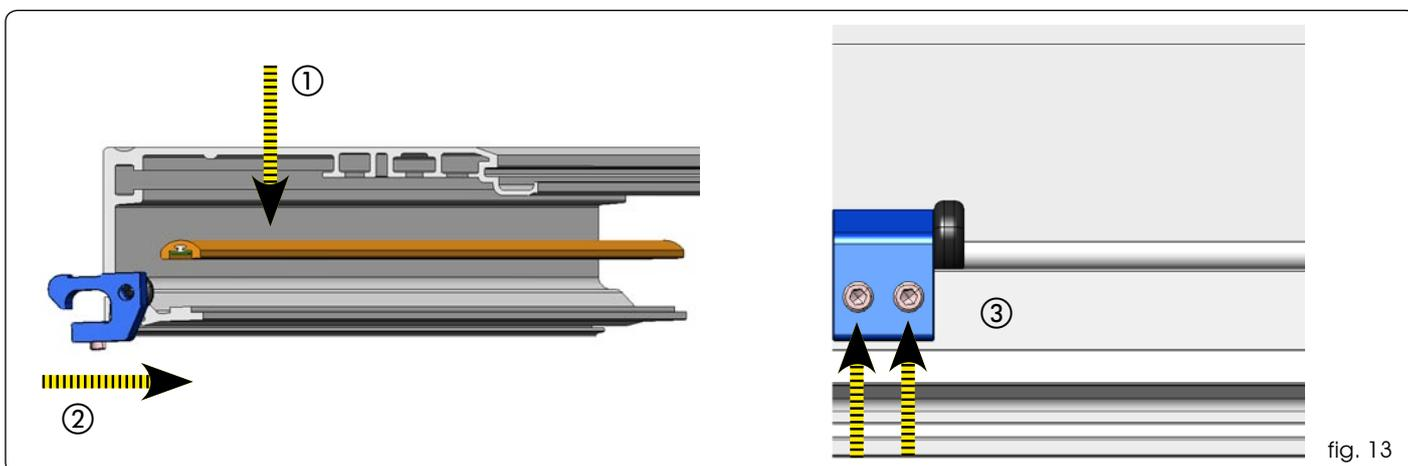
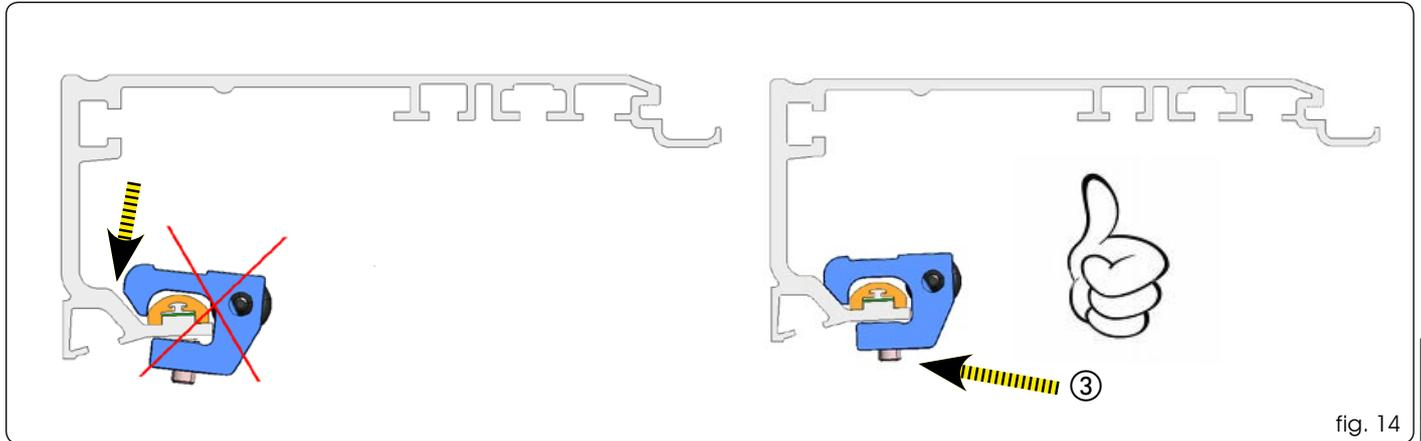

fig. 13
fig. 14
The mechanical stops are 2 for single leaf and to 4 and double leaf . Insert the sliding guide on the profile fig 13-① and insert sideways the mechanical stop fig 13-②.
Then secure it with the 2 Allen screws fig.13 and fig.14-③ .
Important : place the side and central mechanical stops correctly, abutting with the profile, before blocking them (fig.14 ③).